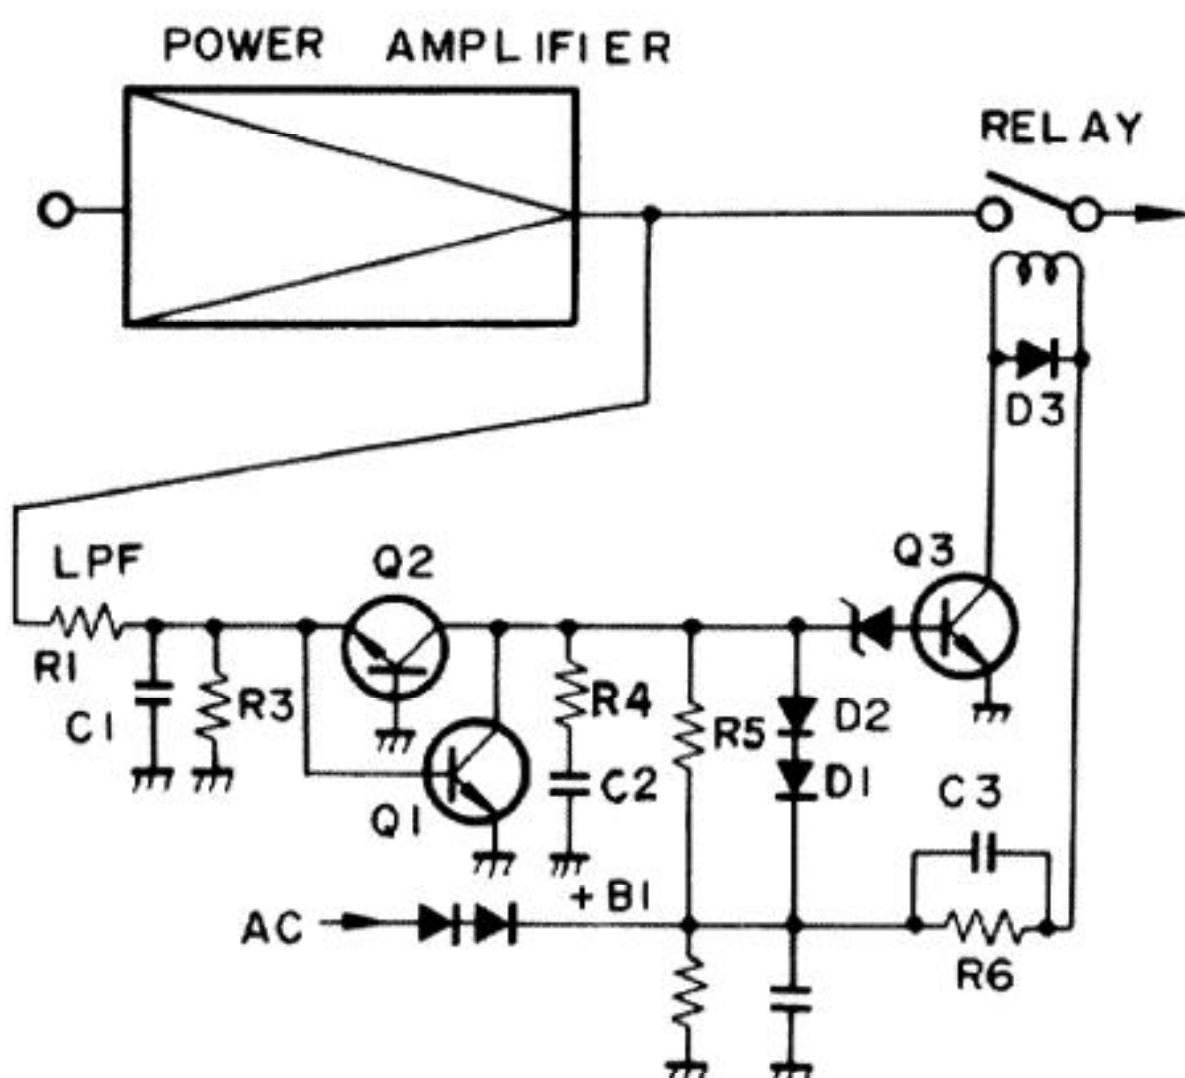

Fig. 5-13 Protection Circuit
With reference to Fig. 5-13 when the power supply is turned on, if there is no input (DC) on Q_1 and Q_2 , they will be off, and the timing capacitor C_2 charges up through R_5 and R_4 , and thus on. When Q_3 conducts, the relay operates, and the output muting on the power amplifier will be removed.